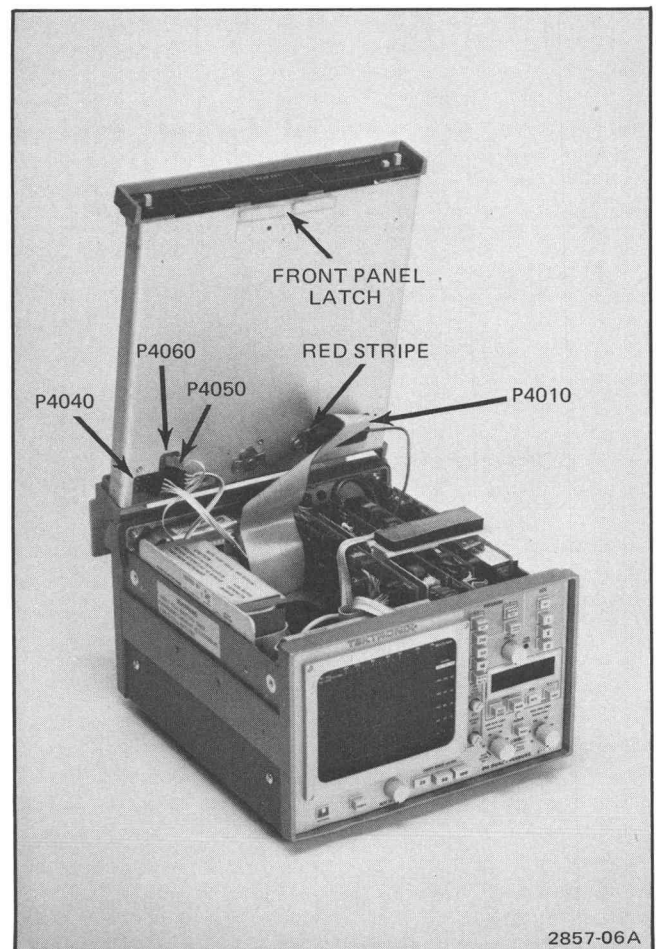

Figure 1-6. Digital Readout Module removal and replacement.
- c. Remove battery plugs P4040, P4050, P4060, and P4010. See Figure 1-6.